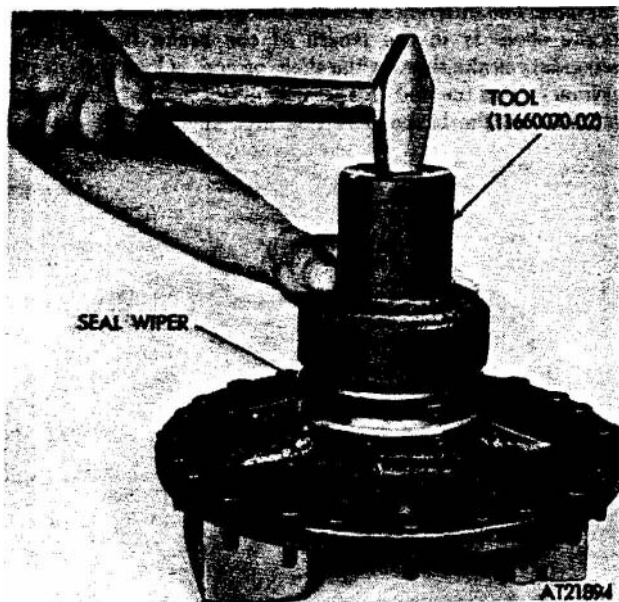

Figure 2-241. Rear seal wiper installation.
(10) Position rear seal wiper in hub and install using tool (11660070-02) (fig 2-241).